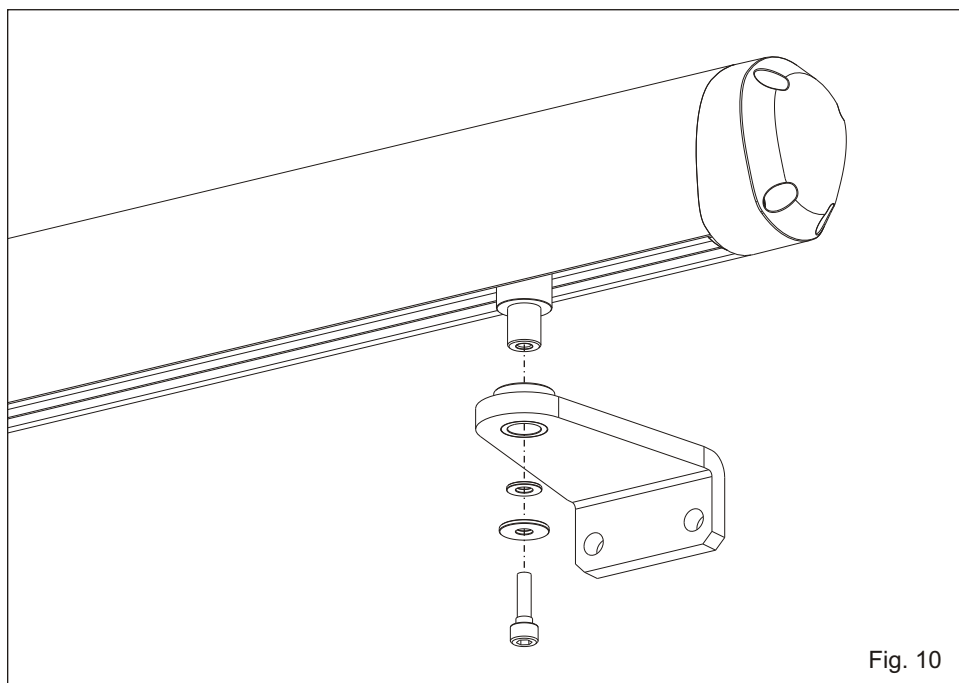

Fig. 10
2.5. Fix the front support (Fig. 10)